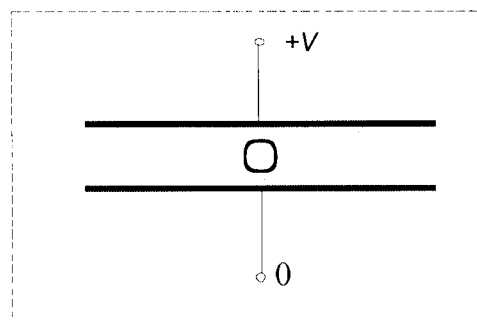

Figure 4.2
- d) A hollow conducting sphere is now added to the centre of the capacitor, as in Figure 4.2. Assuming the net charge of the sphere is zero, draw two sketches of the cross-section, with electric field lines and equipotential lines added respectively. The number of field and equipotential lines should be chosen to illustrate the main features without excessive crowding. [5]